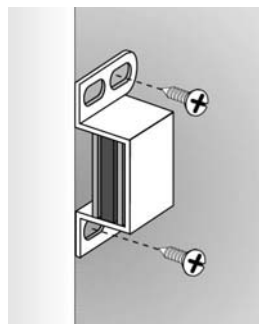

Figure 7
- E. Now, use your Pencil to mark the position of only two of the screw holes, one top and one bottom, in the Magnetic Catch (#4) brackets (See Figure 7).